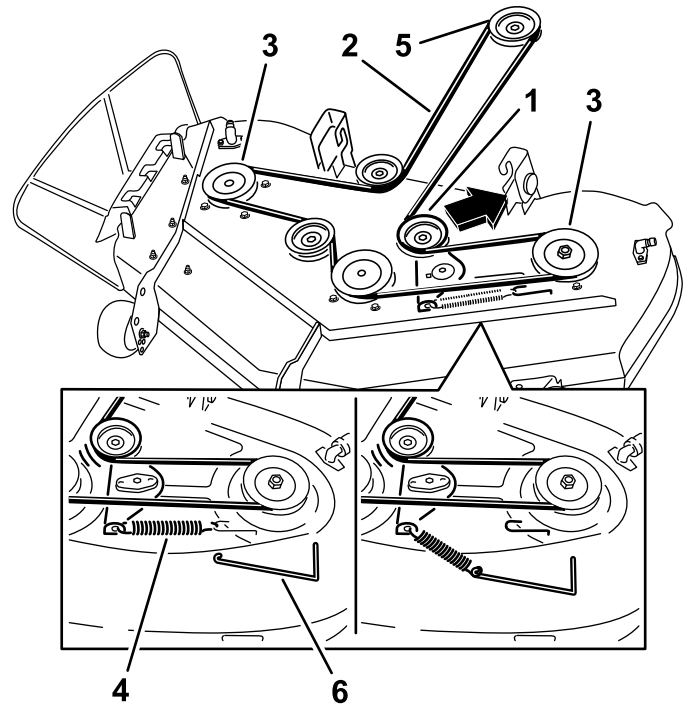

Figure 46
5. Using a spring-removal tool (Toro Part No. 92-5771), remove the idler spring from the deck hook to remove tension on the idler pulley and roll the belt off the pulleys (Figure 46).
6. Route the new belt around the engine pulley and mower pulleys (Figure 46).
7. Using a spring-removal tool (Toro Part No. 92-5771), install the idler spring over the deck hook and place tension on the idler pulley and the mower belt (Figure 46).